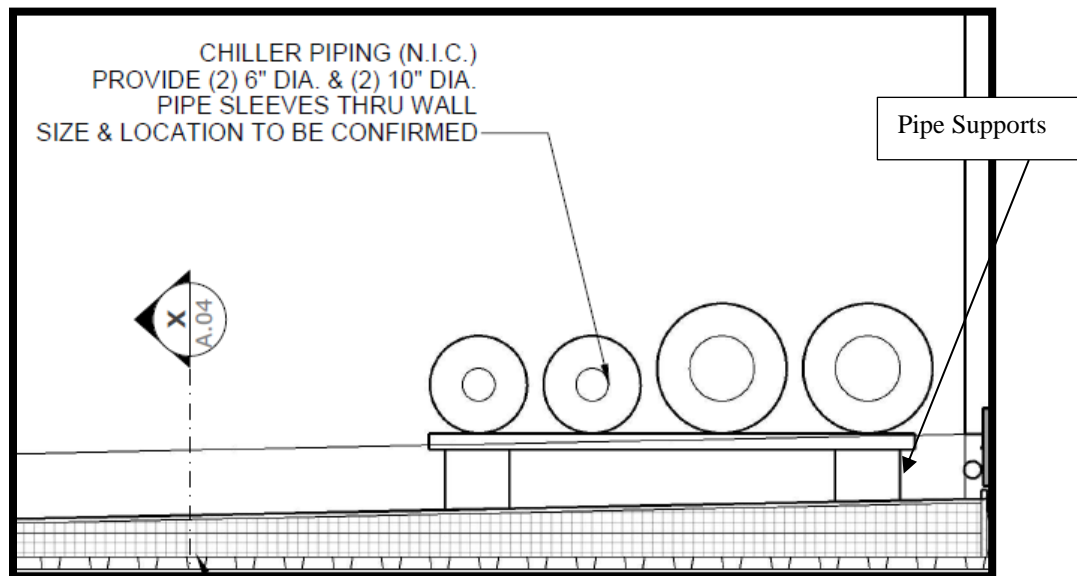

Figure 2: Pipe Supports Section View. (See A.07 Building/Wall Section)
4.8.16 Pipe supports for all dressing room roof piping by others. See Figure 2 for roof pipe supports section view.